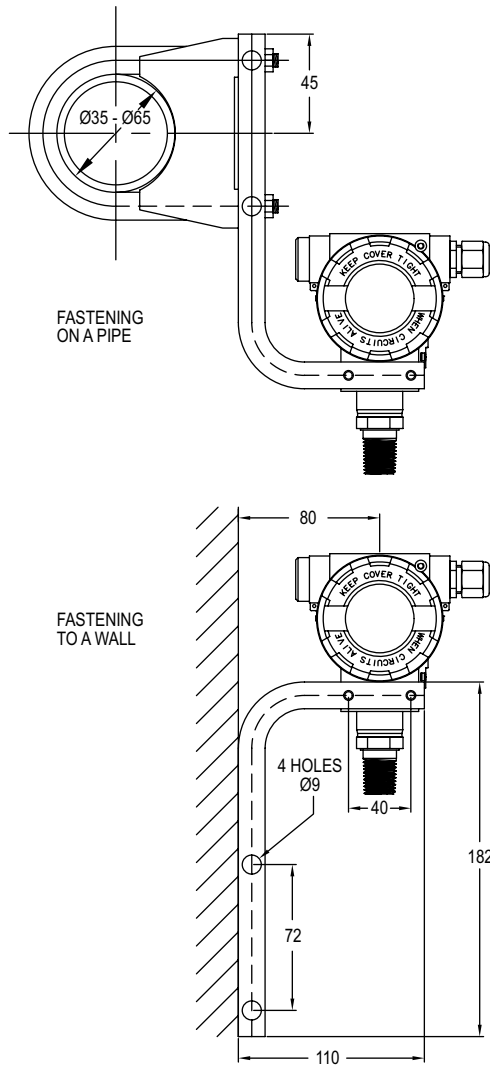

Figure 6: Example: how to install the Series 3400 transmitter
8.1.4. The 3400 transmitter can be installed using a universal "AL" holder allowing to mount the transmitter in any position on the support or a horizontal or vertical pipe Ø35... Ø65 (Figure 6).